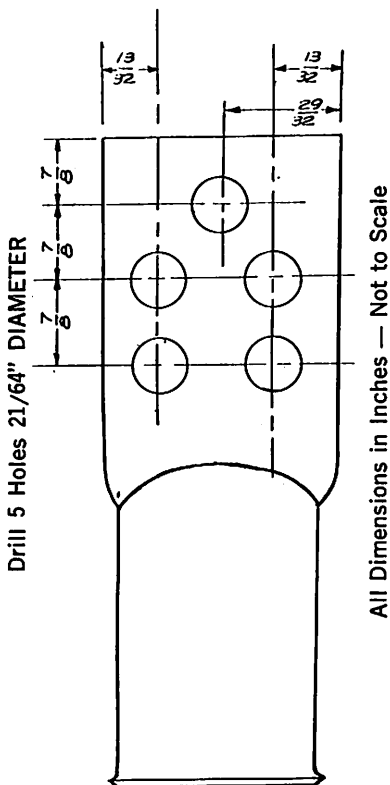

FIGURE 4
All 6 cables used must be same size, i.e. all 535 MCM) — EMD cable and blank lug part numbers are given in the 'Material Required' section. The blank cable lugs should have five (5) 21/64 inch diameter holes drilled thru lug tang (total of 6 lugs involved). Space the 21/64 inch holes per Figure 4. Do not drill the holes larger than 21/64 inch as this will reduce the amount of contact sur-